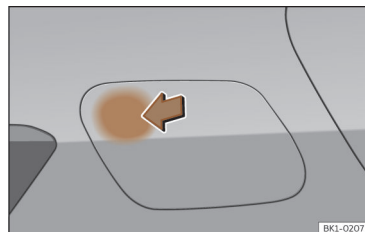

Fig. 57 Opening the charging socket cover.
- Press the battery's charging socket cover in the area of the arrow to open it >>> Fig. 57.